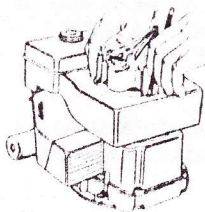

FIG. 2
E. Holding the starter firmly in this position carefully mark the four holes on the housing where the mounting legs are to be located. (Fig. 2)